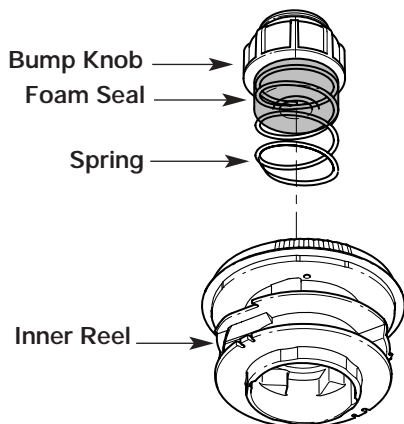

Fig. 20
- Turn the Bump Knob counterclockwise and remove the bump knob, spring and foam seal (Fig. 20).
- Pull out the bump knob, spring and foam seal (Fig. 20).
7. Place the bump knob, spring and foam seal into the inner reel (Fig. 20).